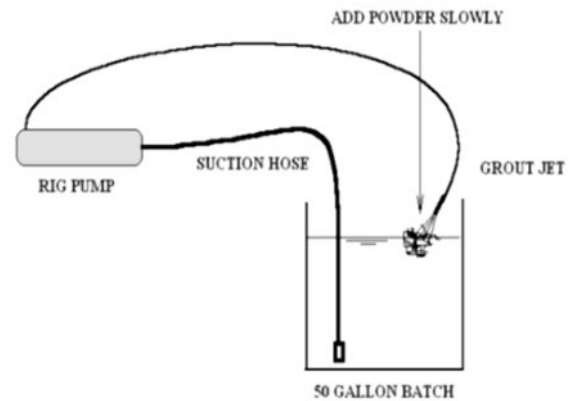

Figure 7-3 Circulation method of pumping grout
- b. For mixing grout use a grout mixer or circulation method (figure 7-3), in case a mixer is not available. In the **circulation method**, a rig pump or a trash pump coupled to a gasoline engine is used for mixing the grout components i.e. water, cement and bentonite. Subsequently, the same pump can be used for pumping the grout to the bottom of the borehole. It is to be noted that pressure grouting is not required as the grout flows down under gravity.